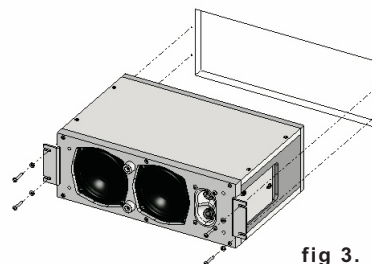

fig 3.
3. Place the loudspeaker into the stair cavity and attach the loudspeaker brackets to the surface using the appropriate fittings. See **fig 3**.